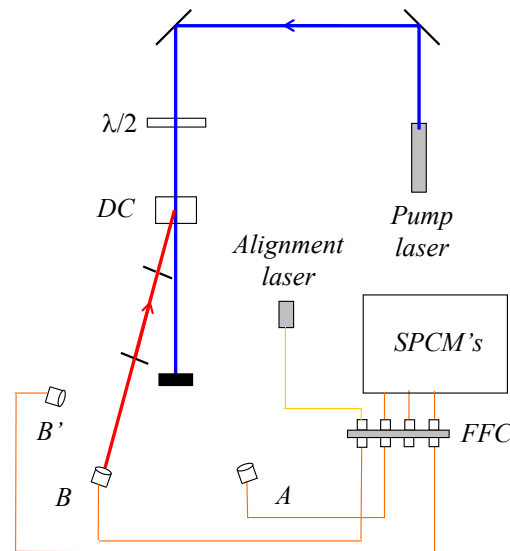

Fig. 3. Using the alignment laser. It should travel backwards from the collection optics, through the irises, and onto the downconversion crystal.
- The fiber from the **B** collection optics leads to a fiber-fiber connector, where it joins another fiber which leads to the filters and a SPCM. Unscrew the fiber coming from the **B** collection optics, and connect it instead to the fiber leading from the alignment laser, as shown in Fig. 3. **Take care when you do this.**
- Turn on the alignment laser (**maximum current of 50 mA**), and light from this laser will shine backward through the **B**-fiber and emerge as a collimated beam from the fiber coupling lens attached to the end of the fiber; see Fig. 3.* The laser light appears dim because it is at a wavelength your eye is not very sensitive to. If you stick white paper in the beam you should be able to see it with the room lights out. You should be able to see it very brightly using the CCD camera and TV monitor. If the laser light is not shining backwards onto the downconversion crystal, ask for help.